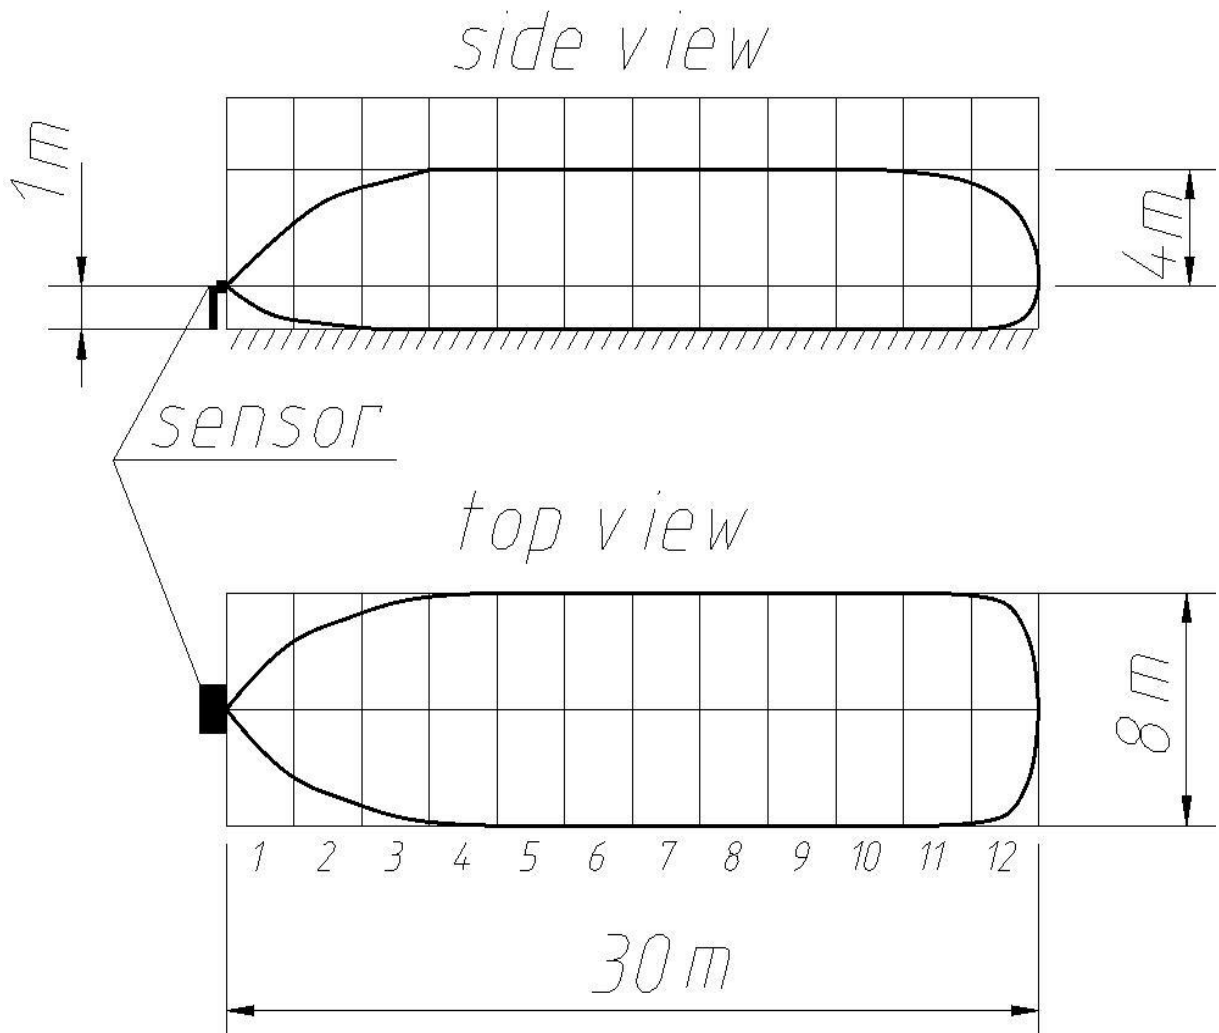

Fig. 8.1 Detection zone parameters of the sensor FM-30
8.3.5. Fix the sensor at a horizontal position (relative to the ground) with the bolt 9. The model of the detection zone form and its dimensions are shown in fig. 8.1.